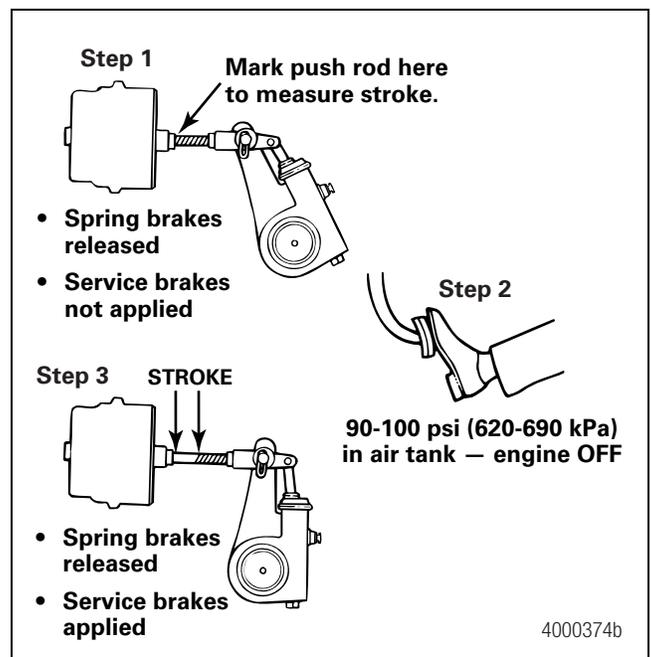

Figure 6.4
3. With the brakes released, mark the push rod where it exits the chamber. Measure and record the distance. Have another person apply and hold the brakes on full application. Figure 6.4.
4. Measure the push rod travel or adjusted chamber stroke from where the push rod exits the brake chamber to your mark on the push rod. Measure and record the distance. Figure 6.4.